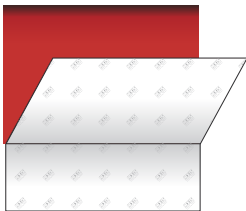

Figure 08
- › Remove the top hinge and continue removing the liner, depending on the surface pattern (cf. paragraphs below). (FIG. 08)